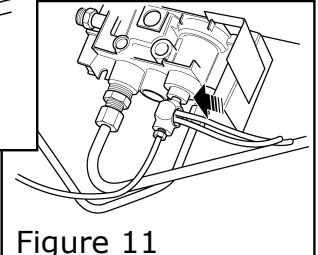

Figure 11
6. Connect the vent switch wires into the thermocouple interrupter. Screw the thermocouple into the interrupter block until finger tight. Make sure that the wires are properly located and finally tighten the thermocouple nut with a wrench to secure the wires with good contact. See figure 11.